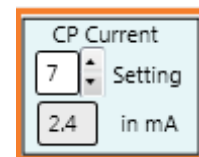
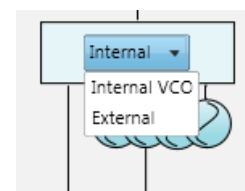

Figure 10. CP Current Setting Spin Box
Figure 11. Configuration Dropdown Menu
- Spin boxes, check boxes, and dropdown menus allow users to select predefined values. These elements do not start a register write operation and users must click the **PLL Adjust** button to produce the PLL/VCO related register writes and the **Apply Changes** button for all other controls. Figure 10 shows an example of a spin box. Figure 11 shows a dropdown menu item to select between the internal VCO and external LO configurations.